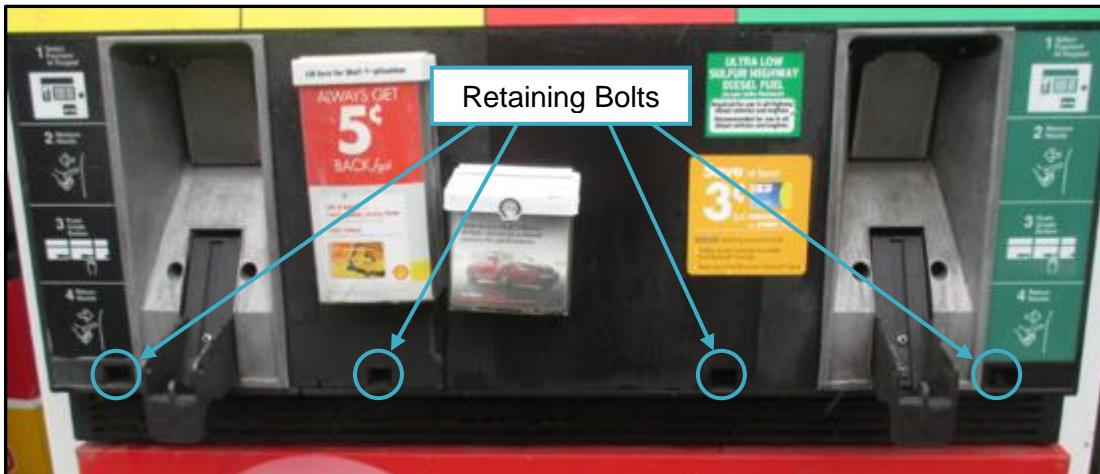

Fig. 1.1 – Remove the bolts from the main door
- Using a 3/16" Hex key, undo the retaining bolts located along the bottom edge of the main door. Depending on the model and dispenser setup, there could be between two to four bolts to remove. The bolts should be captive but may fall out. Do not discard these bolts. (Fig. 1.1)